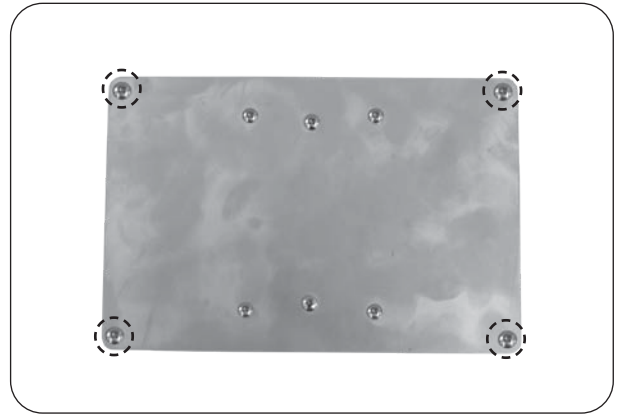

Fig. 36-1 Remove 4 large screws
2. Using a phillips screwdriver, remove the 4 large screws found on the cover of the power supply box (see Fig. 36-1).